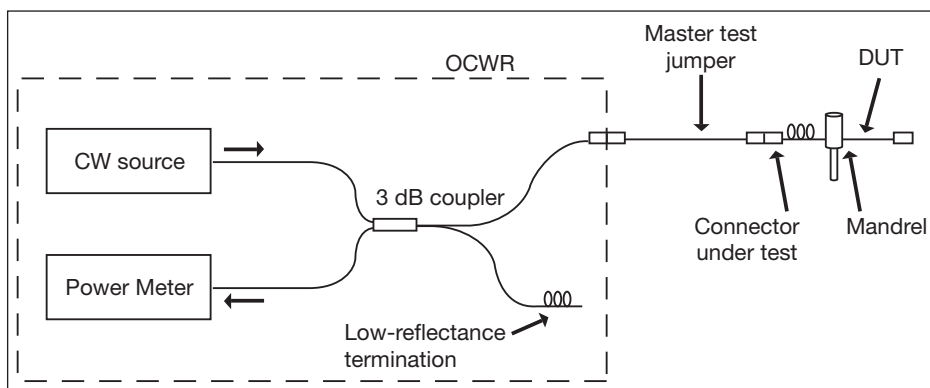

Figure 1. Measurement of a connector reflectance with an OCWR setup.
The OCWR technique is achieved by sending a continuous-wave (CW) optical signal to a device under test (DUT) and measuring the total CW reflected power using a power meter in the return path. Figure 1 shows the block diagram of an OCWR measurement setup.